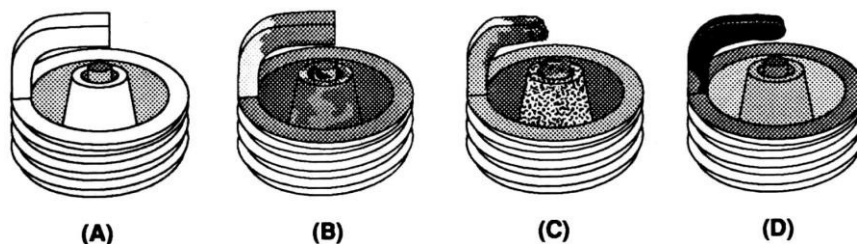

Figure 9 Spark Plug Condition
8. Push the throttle wide open while the engine is off. Each solenoid should make a clicking noise if it is cycling correctly. If no noise is heard, check all the wiring connections and the wiring schematic in Figure 9.
2. Perform a dynamometer pull or a full throttle pass down the racetrack. Note the power reading or vehicle mph (not e.t.). Examine spark plugs for the indication of lean or rich nitrous/fuel conditions (refer to Figure 9 for tips on reading the spark plugs).